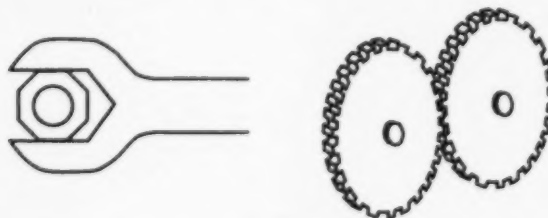

Figure 1 - Wrench & Nut, Gears
1. Set up a single pulley as shown in Figure 1. Attach a weight (W) to the load end of the cord. Make sure to record the value of the weight in your data table.
3. Measure the force it takes to start the weight moving upward at a slow constant speed. This is the input force (P). Record P in the data table.
4. Measure the distance the weight moves (Y) as you move the input cord the distance (X). Record these measurements in your data table.